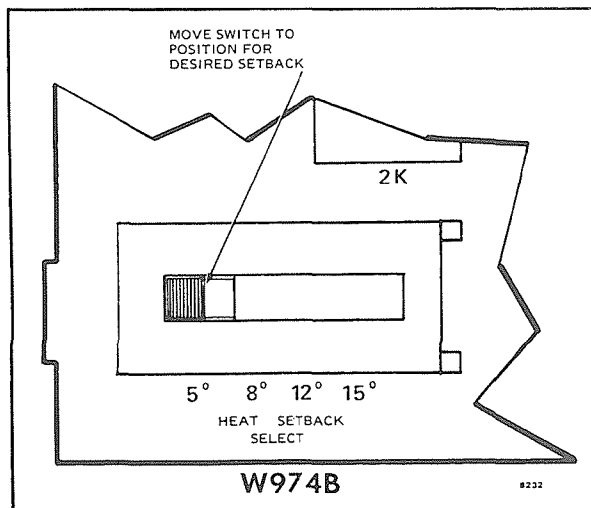

FIG. 10—ADJUSTING THE HEATING SETBACK.
ADJUSTING COOLING SETUP— W974B ONLY (Fig. 10)
2. Set the MODE SELECT jumper (Fig. 10) to COOL LOCKOUT.
6. Return the time clock to the *occupied* mode (DAY position) and set the subbase switches, if used, to the desired positions. Return the T7067 cooling set point, the H205 outside air changeover controller, and the W974B MODE SELECT jumper (Fig. 10) to the desired settings.
2. Set the MODE SELECT jumper (Fig. 10) to COOL SETUP.
3. Set the COOL SETUP SELECT jumper (Fig. 10) to 12 F [6.7 C].
8. Return the time clock to the *occupied* mode (DAY position) and set the subbase switches, if used, to the desired positions. Move the T7067 cooling set point, the H205 outside air changeover controller, the W974B MODE SELECT jumper (Fig. 10), and the W974B COOL SETUP SELECT jumper (Fig. 10) to the desired settings.